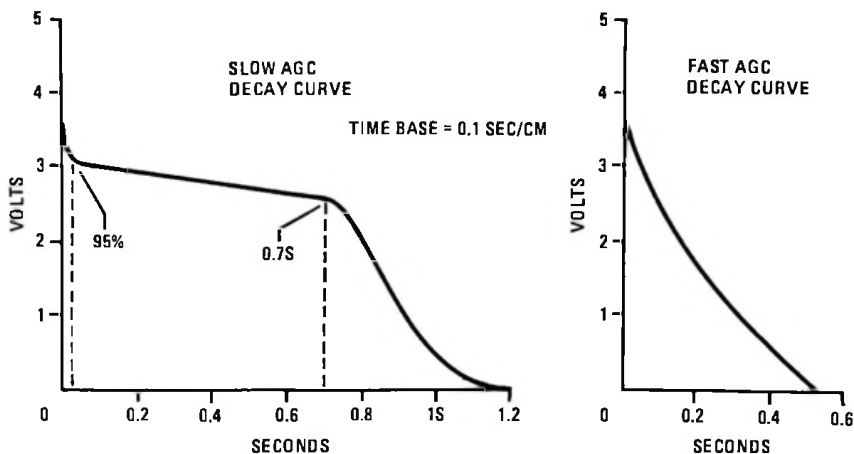

Figure 3. Typical Fast and Slow AGC Voltage Curves
m. Switch off RF input signal (or momentarily remove input coax) to observe AGC decay time on oscilloscope. Normal displays for both FAST and SLOW AGC conditions are shown in figure 3. AGC 90 percent rise time will be a nominal 10 ms for both conditions.